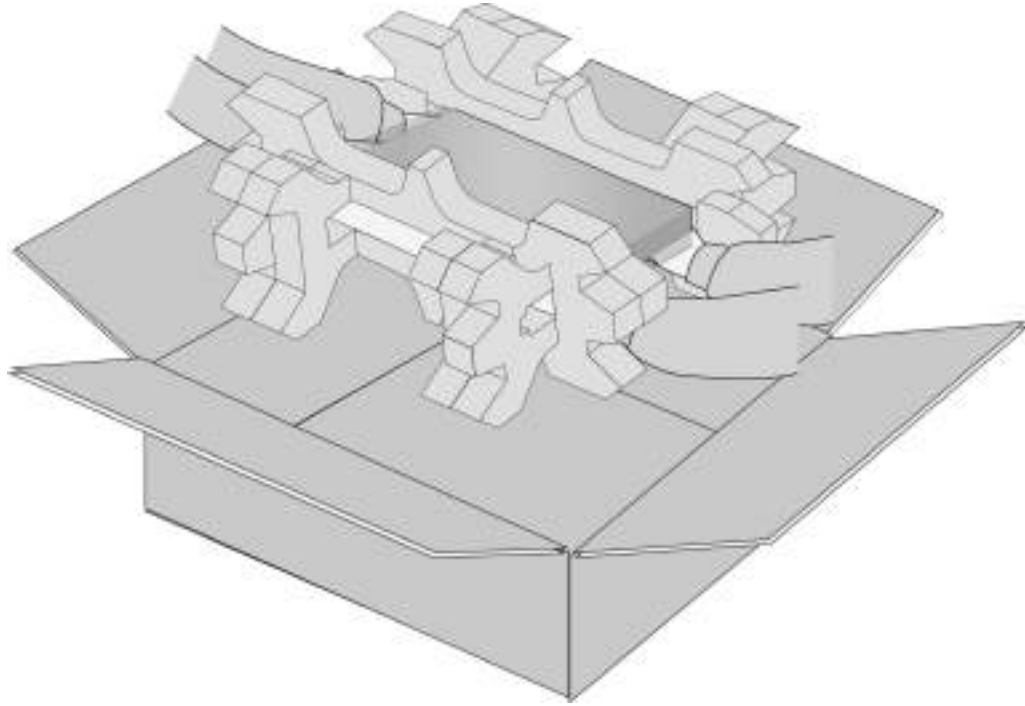

Figure 30. Lifting the Switch from the Shipping Box
3. Lift the switch from the shipping box and place it on a level, secure table. Refer to Figure 30 on page 75.